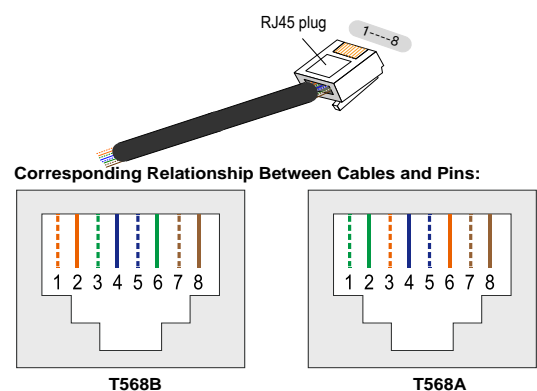

Figure 2 Colour cable order for the Ethernet cable
Step 2 Pinch the wires between your fingers and straighten them out. Carefully push all 8 unstripped coloured wires into the RJ45 plug as shown for T568B and T568A (Figure 2).